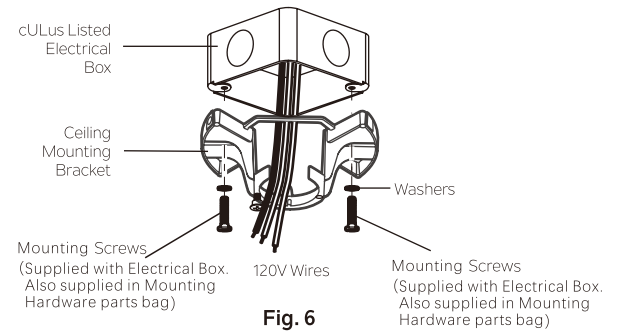

Fig. 6
Step 3. Pass the 120 volt supply wires from the ceiling outlet box through the center of the ceiling mounting bracket. (Fig. 6)
Step 4. Attach the ceiling mounting bracket to the outlet box using the screws and washers included with the outlet box. (Fig.6) (Also supplied in Mounting Hardware parts bag.)